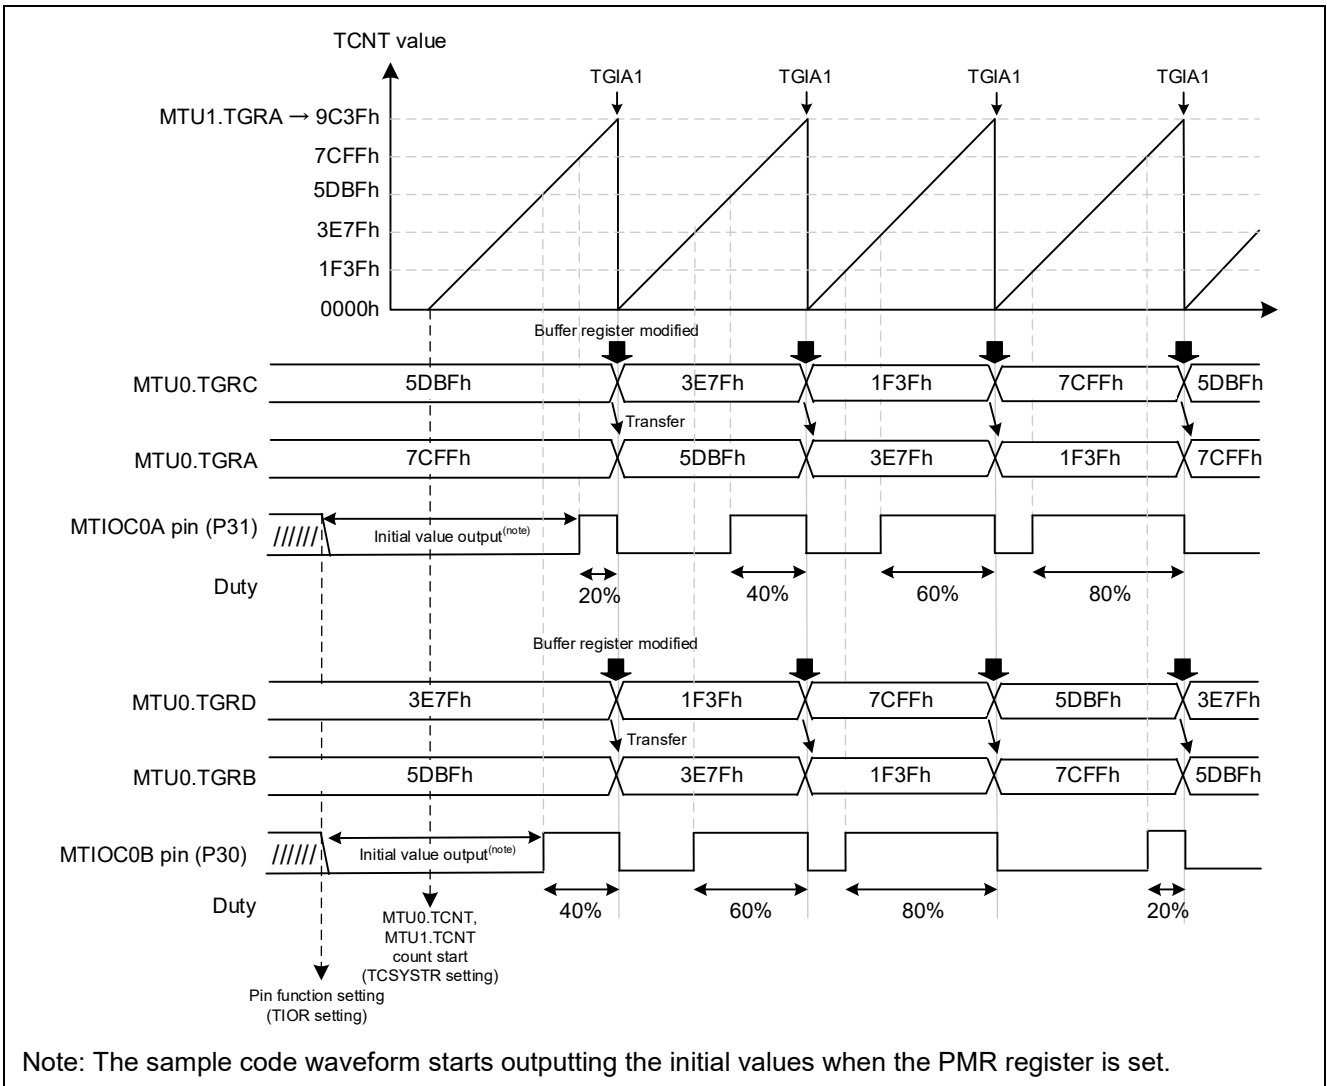

Figure 3.30 Sample Code Operations
- Refer to Figure 3.30 for details on timing for duty cycle changes
The sample code operations are shown in Figure 3.30. The settings of the duty cycle are changed with each period by modifying the value of buffer registers MTU0.TGRC and MTU0.TGRD at the compare match interrupt (TGIA1) of period register MTU1.TGRA. The MTU0.TGRC and MTU0.TGRD values are transferred to duty registers MTU0.TGRA and MTU0.TGRB when a counter clear occurs.